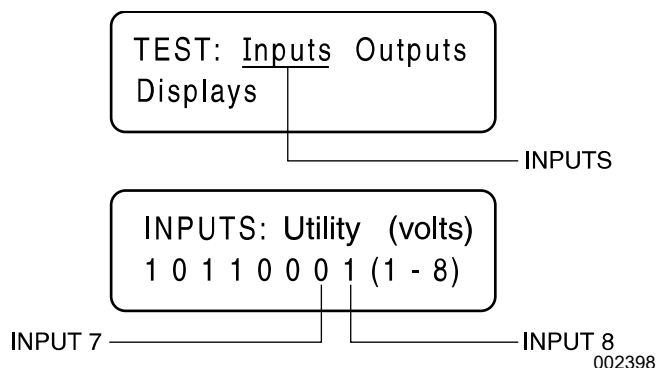

Figure 4-40. The Input Screens
1. See Figure 4-40. Navigate to the Input Screen using the menu system for the controller being worked on.